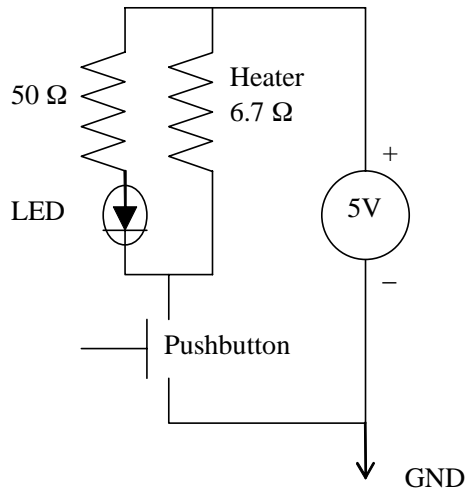

Figure 8.1: Basic heater circuit; the LED indicates when the heater is on.
Now let's build a push-button heater circuit. The diagram is shown in Fig.8.1. The heater is a segment of manganin wire wrapped around a block of aluminum. Manganin, like tungsten in an incandescent light bulb, has rather high electrical resistivity compared to copper. When the pushbutton is depressed, the circuit is completed and current flows through the heater.
1. Set up the circuit as shown in Fig.8.1. Be sure to include a sketch of the circuit in your documentation!